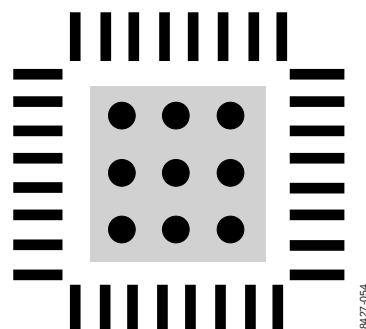

Figure 55. Exposed Pad Layout Example, Top View
- Vias should be placed to connect all layers of copper, allowing for efficient heat and energy conductivity. For an example, see Figure 55, which has nine vias arranged in a 3 inch $\times$ 3 inch grid in the pad area.